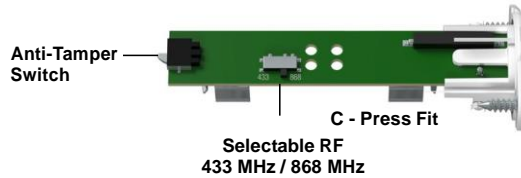

FIGURE 4
2. Locate the switch on the PCB, as shown in Figure 4.